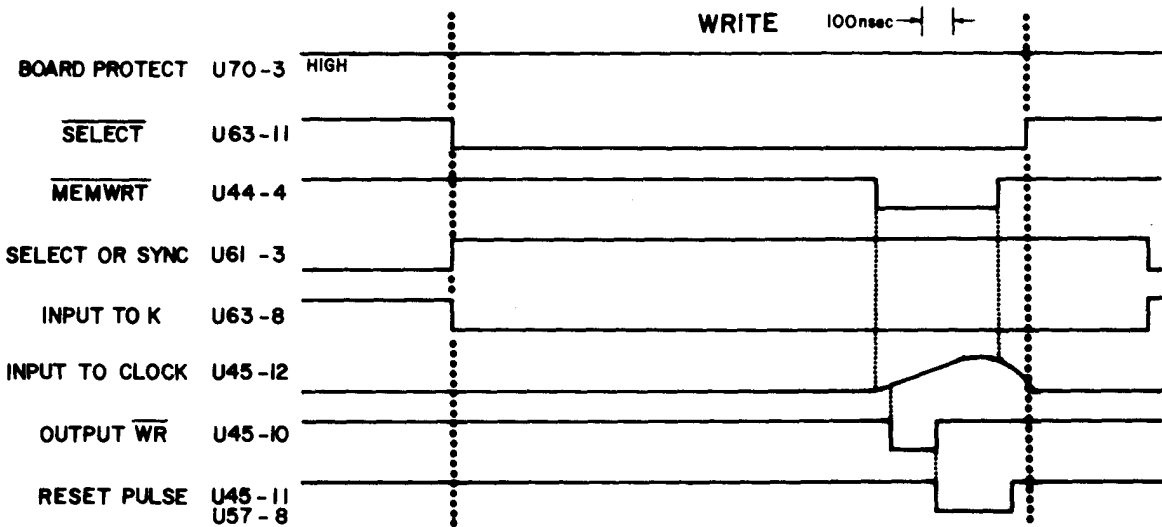

Figure 7-6. Write Request (WR) Timing
Refer to Figure 7-6. The operation of the Write Request (WR) flip flop starts with a write operation to the 16KRA board. If the board is unprotected (U70-3 high), selected (63-11 low), and a write operation is in progress, input to K, U63-8, will go low. Input to clock will go high for .5 usec, 1.5 usec later. This will clock the WR flip flop and cause the WR signal on pin 10 to go low. This will initiate a chain of events which will lead to WE being clocked, MC being set, the delay line being triggered, and eventually U57-8 and U45-11 going low for 200 nsec which resets WR through pin 11. This reset normally happens about 150 nsec later under normal circumstances (no CY in progress).